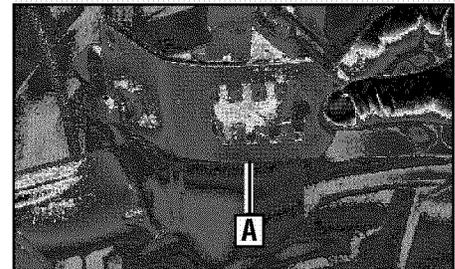
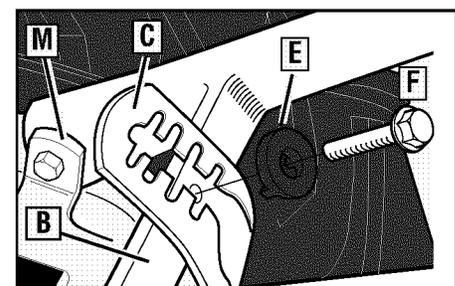
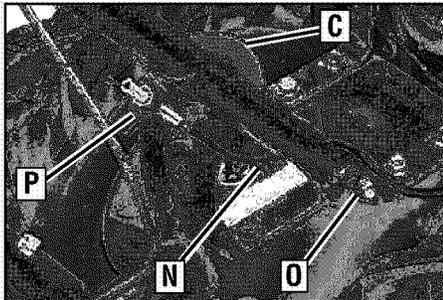

Figure 2-2: On electric start units, move height adjustment bracket aside.
Figure 2-3: Forward clutch control cable not shown for clarity.
Figure 2-4: Attach handlebars.
1. On electric start units, remove one screw and lockwasher from the curved height adjustment bracket (A, Figure 2-2), loosen the second screw, and swing the bracket to one side.
3. Gently lift handlebar (do not overstretch attached cable) and place handlebar cross-brace (B, Figure 2-3) in front of curved height adjustment bracket (C).
4. With the forward clutch cable (N, Figure 2-4) on the inside of handlebar, position the handlebar ends on the outside of the two mounting tabs (M, Figure 2-3) on the transmission top cover.
NOTE: The curved handlebar height adjustment bracket appears as shown in C, Figure 2-3 for non-electric start units. For electric start units, the bracket is loosened and moved to one side.
5. Loosely attach the handlebars to the mounting tabs with two 3/8-16 x 1" screws (heads of screws go to inside of tabs), 3/8" flat washers and 3/8"-16 lock nuts (O, Figure 2-4).
6. On electric start units, reattach the height adjustment bracket (A, Figure 2-2). Tighten both screws securely. Make sure the handlebar cross-brace (B, Figure 2-3) is under the bracket.
7. Move the handlebars up or down to align the threaded hole in the cross-brace with one of the four slots in the curved height adjustment bracket. Place the keyed washer (E, Figure 2-3) on the flange head height adjustment screw (F) with the raised keys (edges) of the washer facing down.
8. Thread the height adjustment screw (F, Figure 2-3) into the hole in the handlebar cross-brace, making sure that the raised keys on the washer fit into the slot on the height adjustment bracket. Tighten the height adjustment screw securely. Next, securely tighten the two screws and nuts in the ends of the handlebar (M, Figure 2-3).